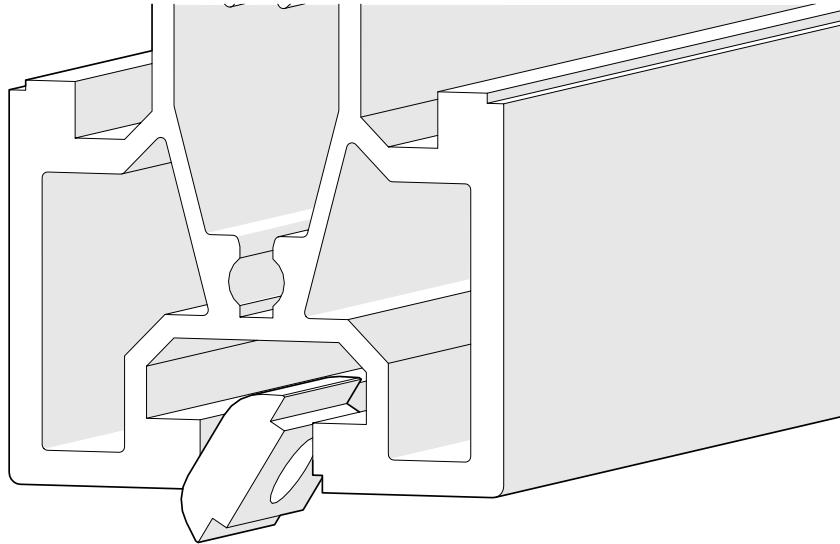

Figure 10: Inserting P-00223
Step 3: Align LTU into position, lining up P-00223 with the holes in the middle plate as shown in Figure 10.